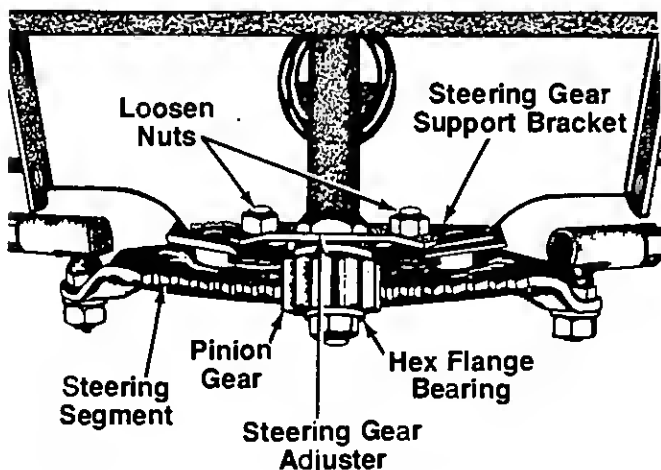

FIGURE 2.
3. Place hex flange bearing, flat side down, over the end of the steering shaft, and seat it into the steering gear adjuster. See figure 2.